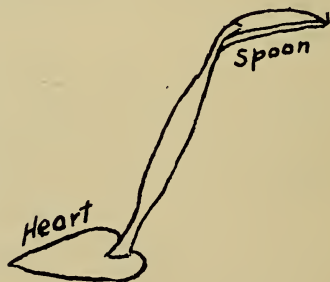

Fig. 12. Slicker
12. Slicker: a double ended (leaf and spoon) instrument used for smoothing flat and rounded surfaces and for patching. (Fig. 12.)